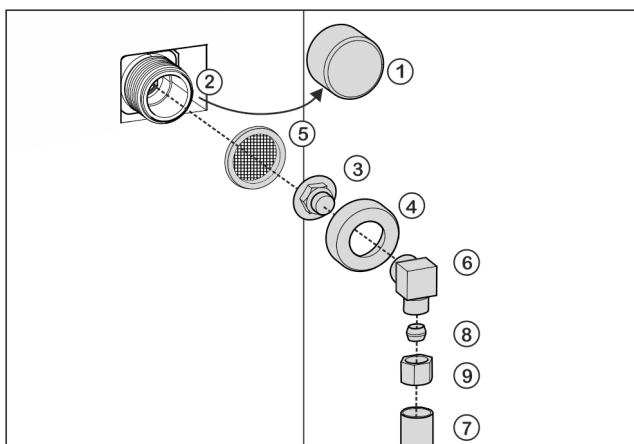

Fig. 26
- ▶ Insert the filter *Fig. 26 (5)* with the recess pointing down towards the coupler *Fig. 26 (3)*.
- ▶ Screw the union nut *Fig. 26 (4)* by hand onto the thread of the solenoid valve *Fig. 26 (2)* until it is firmly in place.
- ▶ Screw on angle piece *Fig. 26 (6)*.
- ▶ Connect the water pipe *Fig. 26 (7)* (e. g. 1/4" OD copper pipe) with the clamp ring *Fig. 26 (8)* and nut *Fig. 26 (9)* to the elbow connector *Fig. 26 (6)*.
- ▶ If necessary: Fasten the water pipe *Fig. 26 (7)* to the housing with the guide clip.
- ▶ Put angle piece *Fig. 26 (6)* to one side.
- ▶ Connect the water pipe *Fig. 26 (7)* (e. g. 1/4" OD copper pipe) with the clamp ring *Fig. 26 (8)* and nut *Fig. 26 (9)* to the coupler *Fig. 26 (3)*.
- ▶ Remove cap *Fig. 26 (1)* from solenoid valve *Fig. 26 (2)*.
- ▶ Insert coupler *Fig. 26 (3)* into union nut *Fig. 26 (4)*.